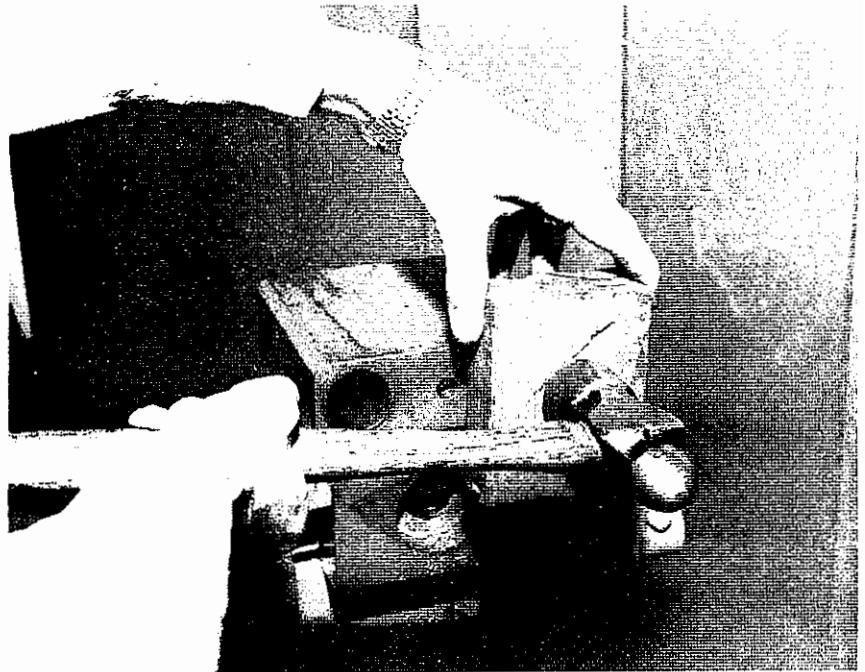

Figure 17
4. Insert new bushings in die carriage. NOTE: Bushings should be started into hole by "LIGHTLY" tapping with hammer. (Figure 16) After bushings are started place a block of wood against bushing to prevent damage when driving them in. (Figure 17) If bushings are damaged use a round or half-round file to remove burrs from bushings.